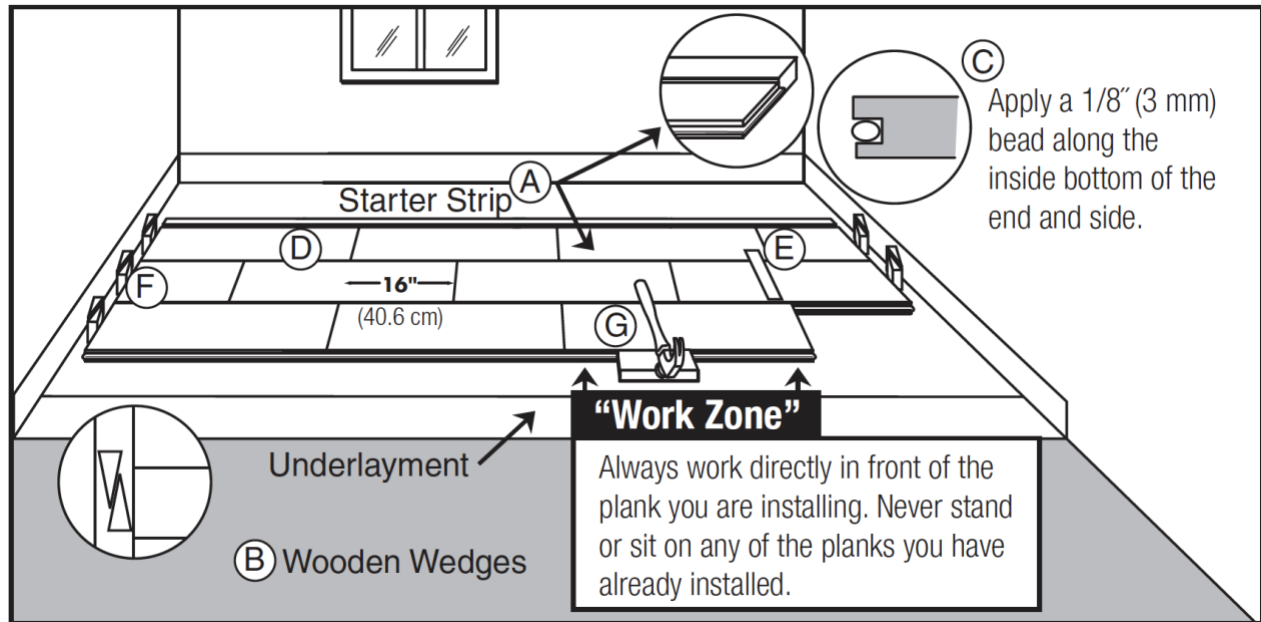

Figure 14
- Select the first board. All installations should begin with the groove side against the wall using the longest boards available. Apply a continuous 1/8" (3 mm) glue bead to the inside bottom of the groove on the end of the board. Do not apply glue to the groove side at this time (**Item C, Figure 14**). Products with the end tongue on the left should be installed right to left, opposite tongues should be left to right. (**Item D, Figure 14**). If a sacrificial board was used remove it **DO NOT** glue the first row to it.
- Complete the first row. Cut the last board allowing for 1/2" (13 mm) clearance between the wall and the floor. (Use the remaining end of the cut board as a starter board for any row following row three). Install a wedge on the end of the board between the hardwood flooring and the wall, allowing 1/2" (13 mm) expansion space. Avoid installation of any boards shorter than 16" (40.6 cm) in the first four rows. (**Item F, Figure 14**).
- Use a pull bar to pull the last board into place from the opposite end. Install wedges into the gap and tighten (**Item B, Figure 14**).
- Cut or use a shorter board for the first board of the second row. Start the second row by applying a 1/8" (3 mm) bead along the inside bottom of the end and side groove of the new board. Install the first board of row two. Apply a bead of glue to the inside bottom of the end and side groove of the next board and install. When installing boards together, use a tapping block against the tongue, not the groove (**Item G, Figure 14**). Tap the boards into place by tapping with a hammer on the tapping block. **DO NOT** tap on the edge directly with the hammer. Complete the second through fourth rows using this technique. Insert wedges on the ends, as necessary, to restrain the movement of the floor.